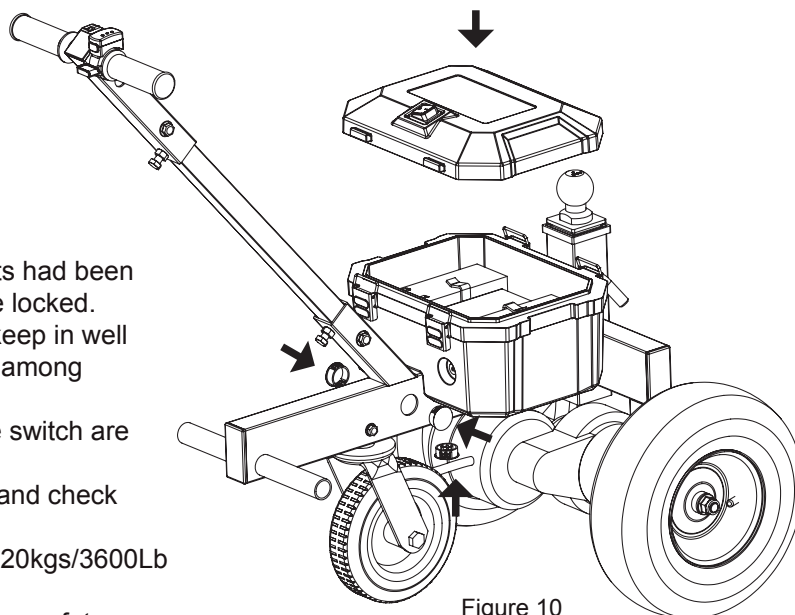

Figure 10
10. After the wire connection, locked the battery box, sealed by the plug, installation finished. **(See Figure 10)**